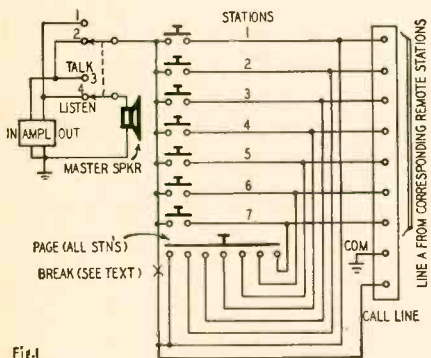
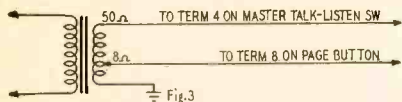

Fig. 1
Fig. 3
A. Fig. 1 shows the switching circuits
secondary tapped at 8 ohms. In this case, break the connection at X in Fig. 1 and wire the transformer as in Fig. 3 so that the 8-ohm voice-coil tap connects to terminal 1 on the PAGE button. (The line "to term. 8 on page button" in diagram above is incorrect. Use an input transformer with 50-ohm secondary.